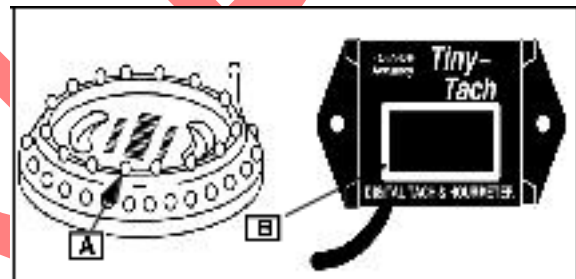

Fig. 13
Tachometers are available from your Briggs & Stratton source of supply. Order Tachometer #19200 (A) or Digital Tachometer & Hourmeter #19389 (B) Fig. 13).